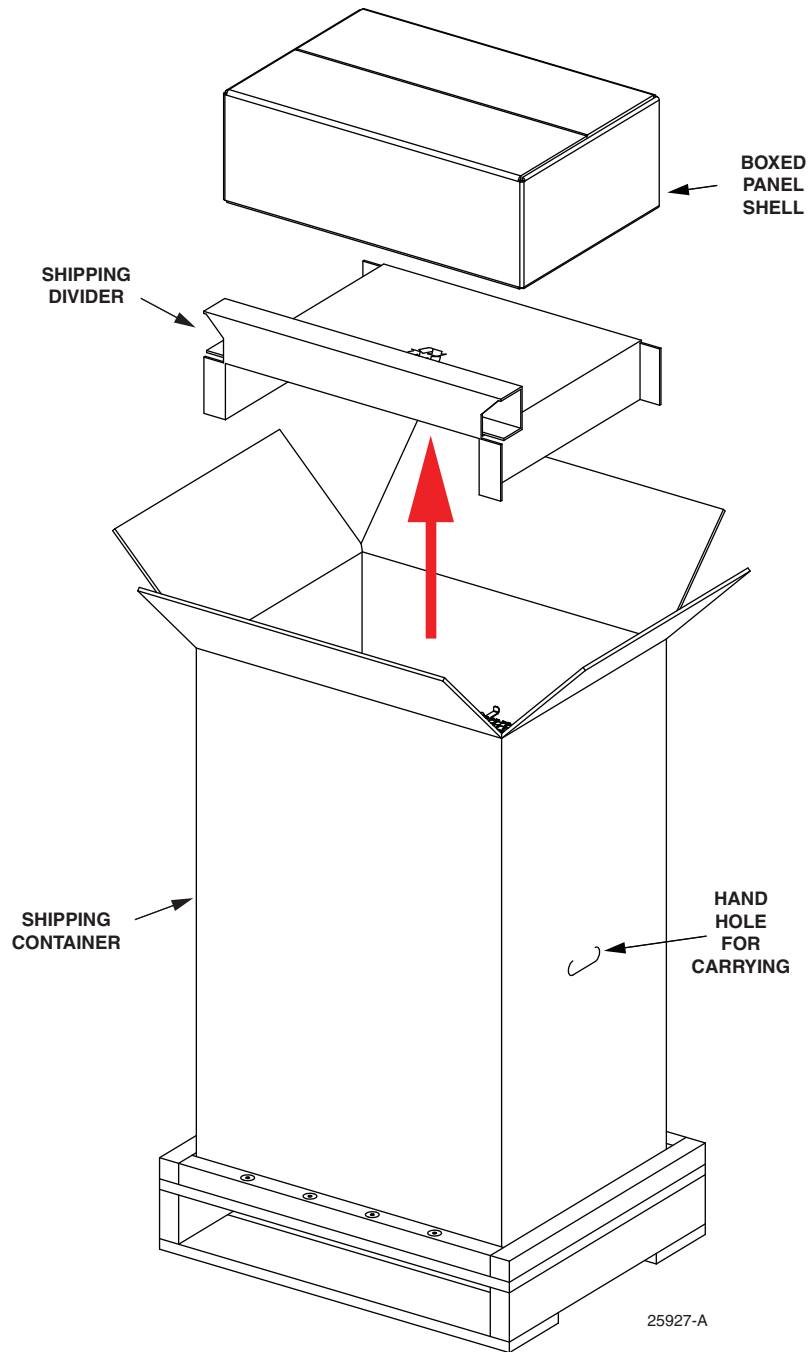

Figure 32. Unpacking Boxed Panel Shell and Shipping Divider
Begin unpacking the shipment container as follows, referring to Figure 32.
2. Remove the panel shell from the shipment box (see Figure 32 on Page 28).